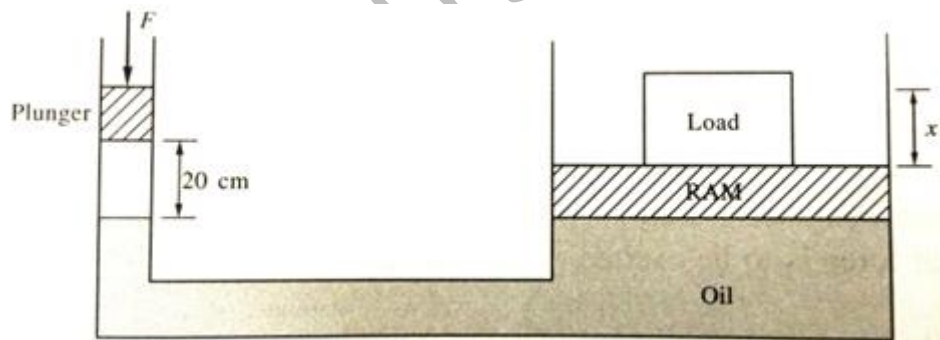

Fig:Q1(c)
- c) A force of 500 N applied on a plunger of diameter 5 cm of a hydraulic press moves the piston through a distance of 20 cm as shown Fig. Q1(c). What is the maximum weight of the load that can be placed on the ram and what will be the displacement of the ram, if the diameter of the ram is 40 cm. 07